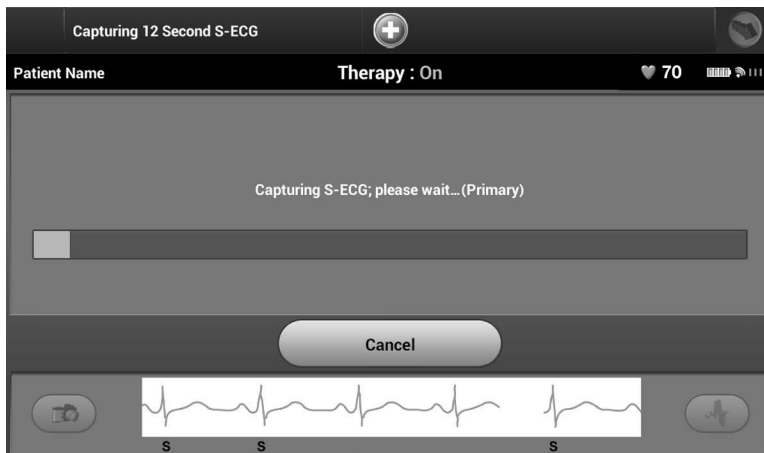

Figure 49: *Capture all sense vectors*
2. The Capturing 12 Second S-ECG screen will appear and display the status of the sense vector capture process (Figure 49).